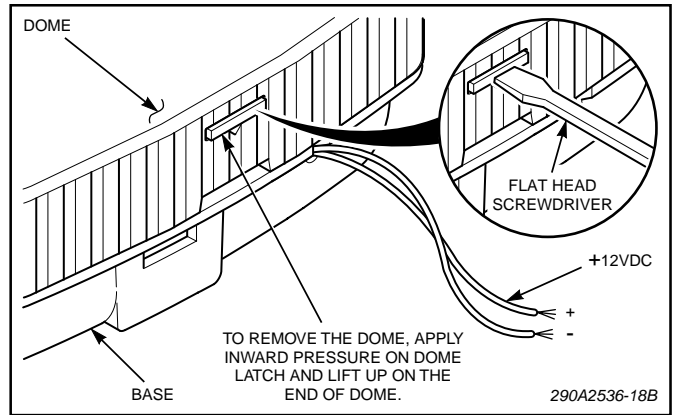

Figure 2.
1. See figure 2. Press the retaining latch (located on the rear of the light) with the blade of a flat blade screwdriver, and lift the dome away from the base.